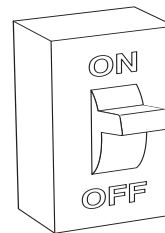

Fig. 13 – Turn on Electrical Supply
- Turn ON the electrical supply to the furnace and wait one minute (see Fig. 13).